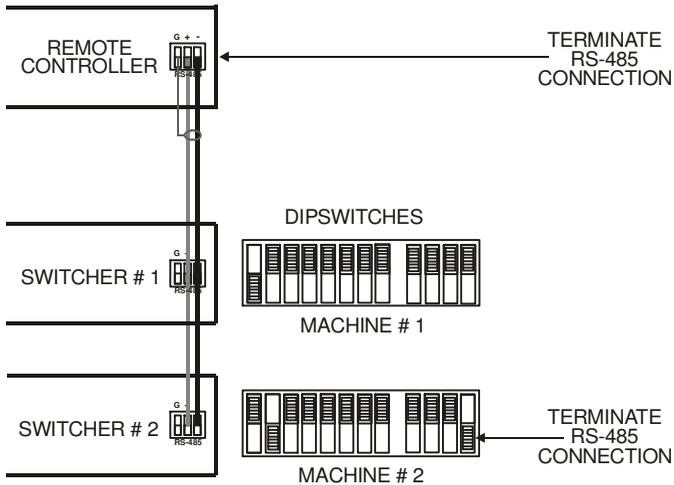
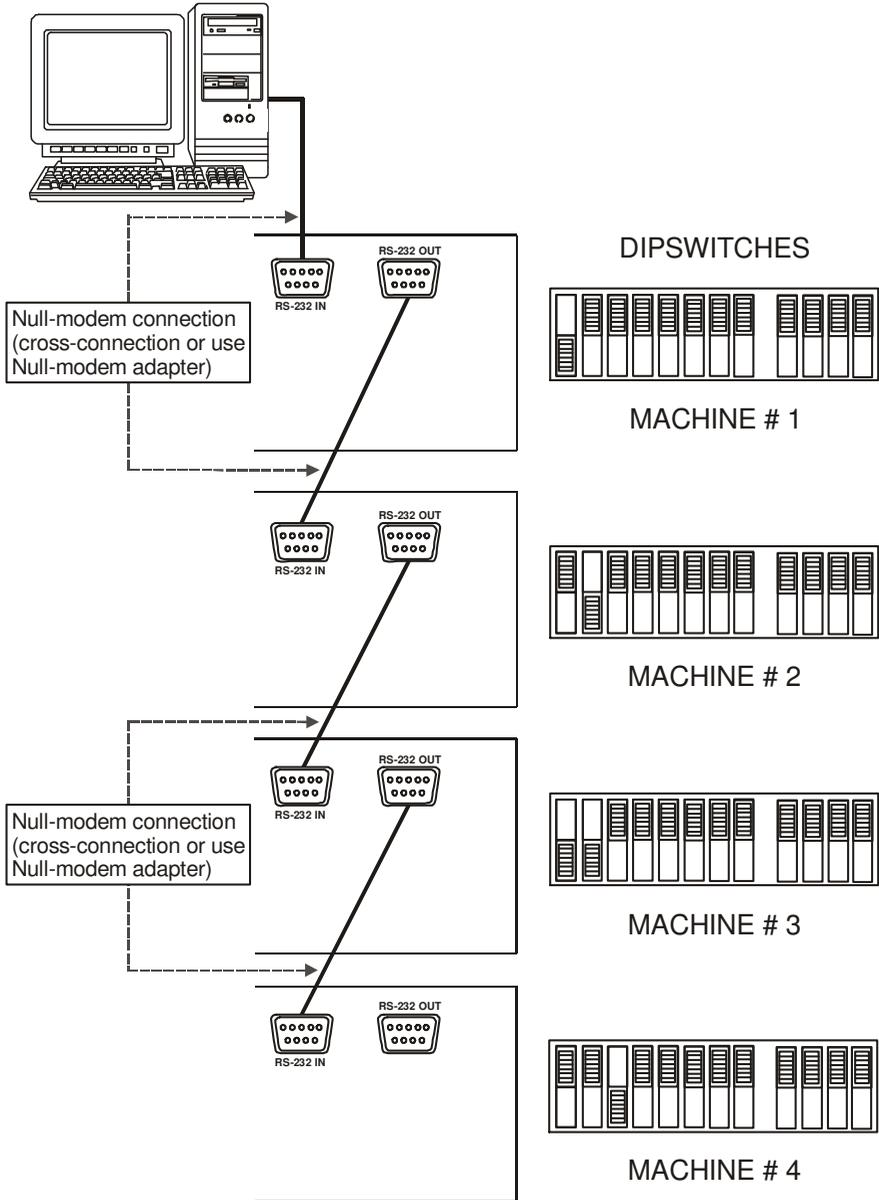

Figure 8: Controlling via RS-485
Figure 10: Dipswitch Settings on 4 VP-81xl, VP-161xl, and/or VP-321xl Units
To connect an RS-485 remote controller to two **VP-81xl/VP-161xl/VP-321xl** units (see Figure 8):
Figure 10 illustrates how to set the dipswitches on four single **VP-81xl**, **VP-161xl**, and/or **VP-321xl** units, which are controlled by one RS-232 port:
7. Control via RS-485 (see Figure 8) or via RS-232 (see Figure 10).